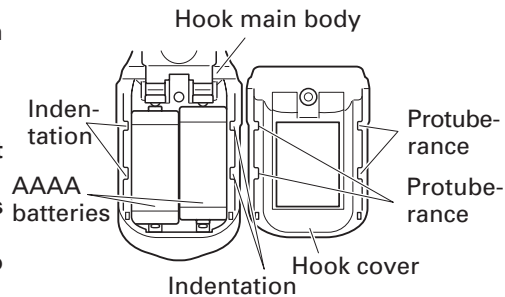

Fig. 14
- (2) Remove the old batteries and insert the new batteries. Align with the hook indications and position the plus (+) and minus (-) terminals correctly. (Fig. 14)